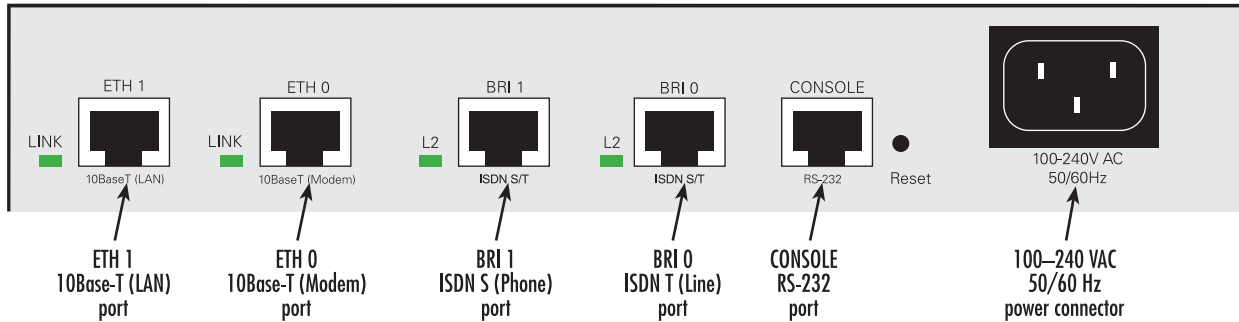

Figure 48. SmartNode 1400 connectors
1. Installing the 10Base-T Ethernet cable into ports *ETH 0* and *ETH 1* (see figure 48) (see “Installing the Ethernet cables” on page 85).
1. Insert the barrel type connector end of the AC power cord into the 100–240 VAC power connector (see figure 48).